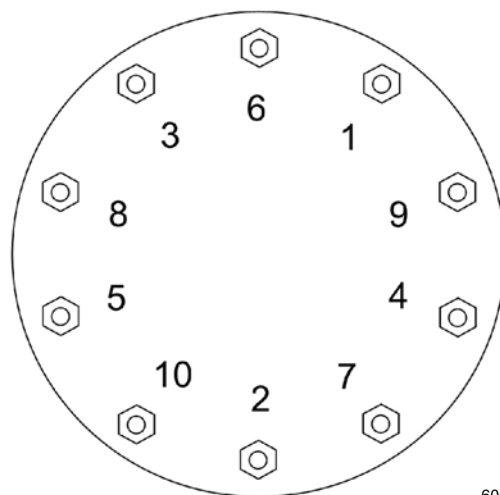

Figure 4. Tightening Sequence.
11. Tighten bolts (Figure 1, Item 3) IAW tightening sequence shown (Figure 4) to 50 lb-ft (68 Nm).